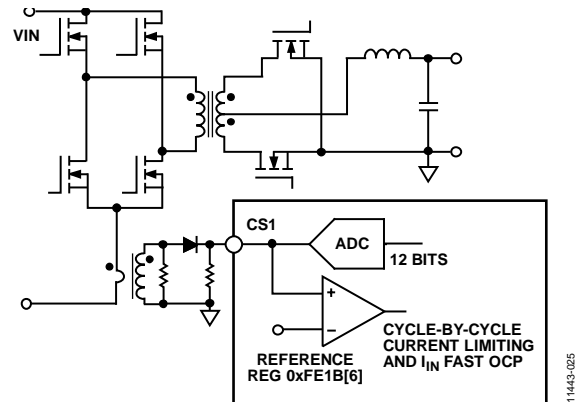

Figure 25. Current Sense 1 (CS1) Operation
Current Sense 1 (CS1) is typically used for the monitoring and protection of the primary side current, which is commonly sensed using a current transformer (CT). The input signal at the CS1 pin is fed into an ADC for current monitoring. The range of the ADC is 0 V to 1.60 V. The input signal is also fed into an analog comparator for cycle-by-cycle current limiting and  $I_{IN}$  overcurrent fast protection, with a reference of 0.25 V or 1.2 V set by Register 0xFE1B[6]. The typical configuration for the CS1 current sense is shown in Figure 25.